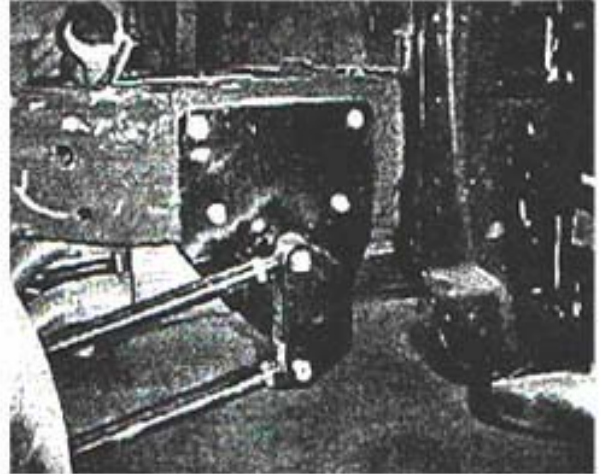

Figure 2
8. Install the forward 4-link brackets where the forward leaf spring brackets were (using the existing rivet holes left empty in step 7) with the supplied hardware, eight $\frac{1}{2}$ " x $1\frac{1}{4}$ " bolts, eight $\frac{1}{2}$ " flat washers (place between the frame and the nuts) and eight $\frac{1}{2}$ " locking nuts. Figure 2.